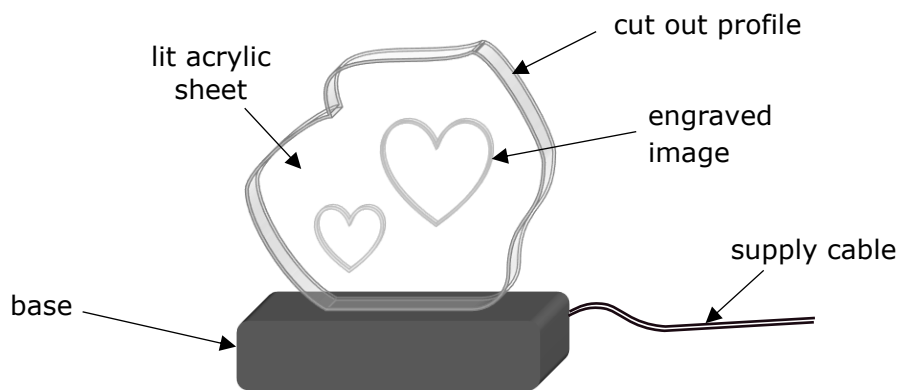

Figure 2
13. Figure 2 shows a tabletop decorative lamp. The lighted part of the lamp is made from sheet acrylic.
18. The lighting system of the lamp shown in Figure 2 consists of an LDR sensor, a microcontroller and an LED. Figure 4 shows an incomplete schematic diagram of the system.